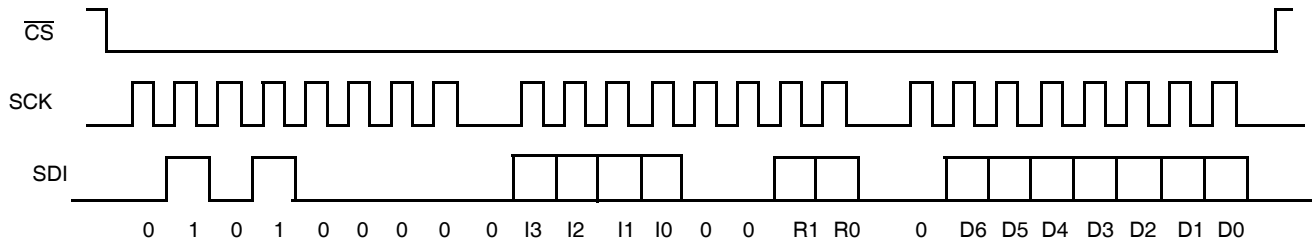

FIGURE 16. THREE BYTE WRITE SEQUENCE
A Write operation to the ISL22416 is a three-byte operation. It requires first, the  $\overline{CS}$  transition from HIGH to LOW, then a valid Identification Byte, then a valid instruction byte followed by Data Byte is sent to SDI pin. The host terminates the write operation by pulling the  $\overline{CS}$  pin from LOW to HIGH. For a write to address 0 (WR), the byte at address 2 (ACR<7>) determines if the Data Byte is to be written to volatile or both volatile and non-volatile registers. Refer to "Memory Description" and Figure 16.